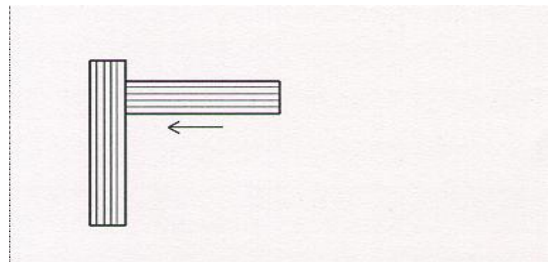

Figure 2
- a) by cutting and pressing the end of the strip to be glued against the side of the other perpendicular strip (figure 2)